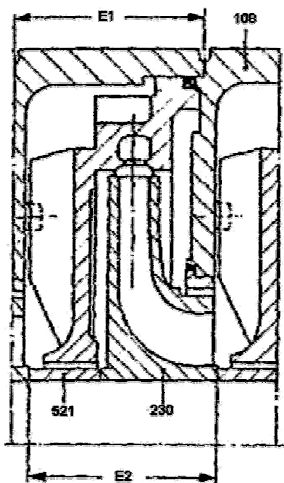

Figure 34 – Measuring stages
Prior to assembly, measure the axial length “E” of the stage casing (108) and the appertaining impeller (230) with stage sleeve (521). Any differences in length must be compensated for solely by machining the stage sleeve (521) so that $E_1 = E_2$ (Fig. 34).
Consult item 9.4.1.1. “General” and Fig. 34.